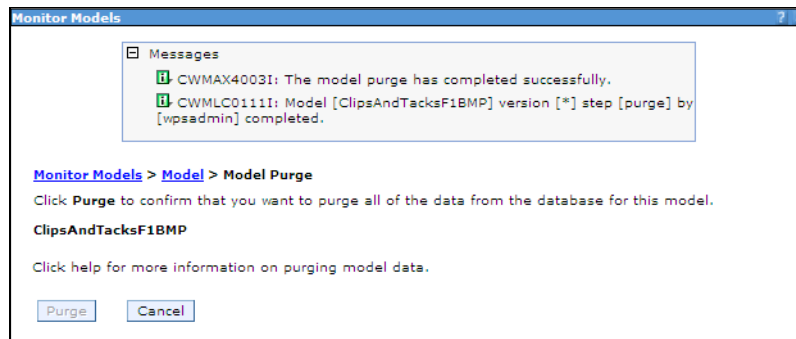

Figure 14-55 Monitor model undeployment: Confirmation of purge
- ▶ The Purge page will be refreshed to display the confirmation messages (Figure 14-55).